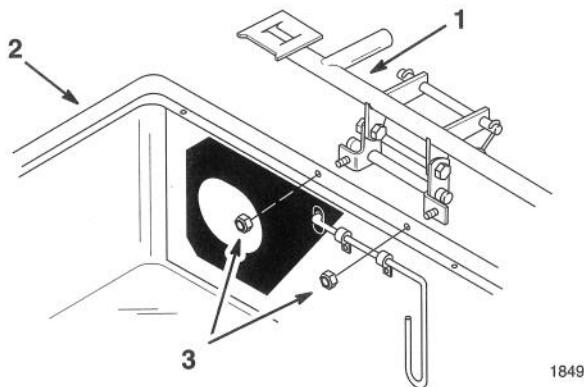

Figure 11
3. Assembly the frame assembly to the bagger cover with (2) 1/4" locknuts (Fig. 11).